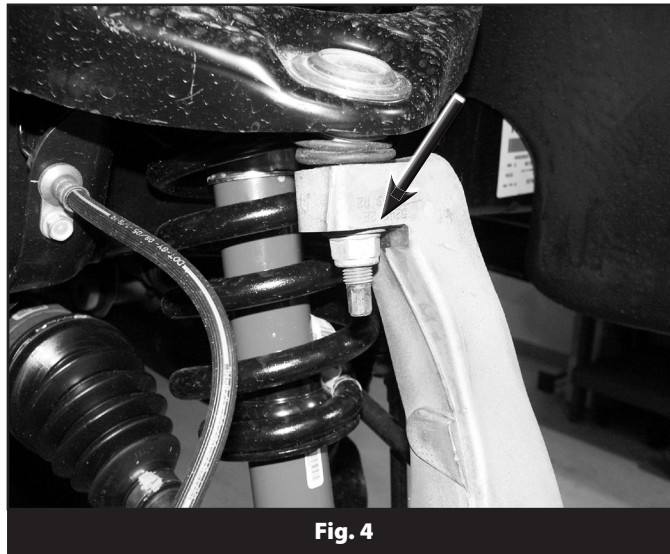

Fig. 4
8. Support the lower control arm with a hydraulic jack. Remove the upper ball joint nut and thread it back on a couple of turns by hand (Fig 4). Disconnect the ball joint from the knuckle using the appropriate puller. Remove and retain the ball joint nut. Note: Take care to not allow the knuckle assembly to fall outward and disengage the CV shaft.